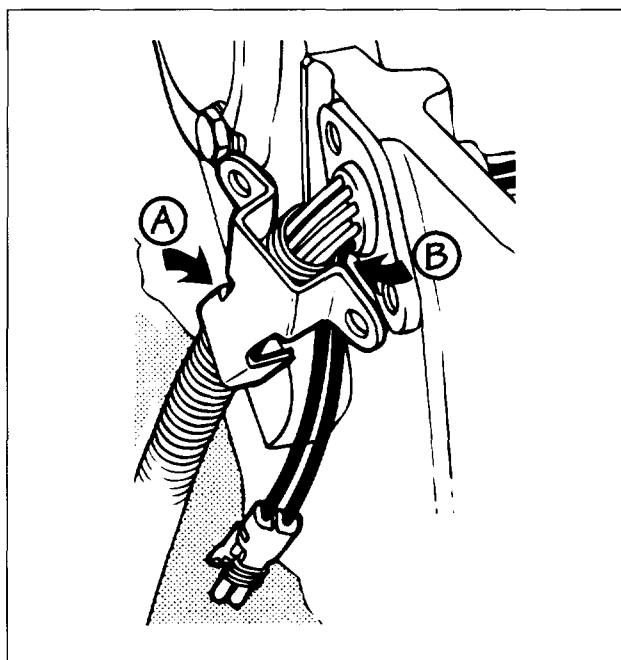

FIG. 3
1. Remove the mounting flange cover (A) from the Electronic Unit Injector (EUI) harness (Fig. 3).